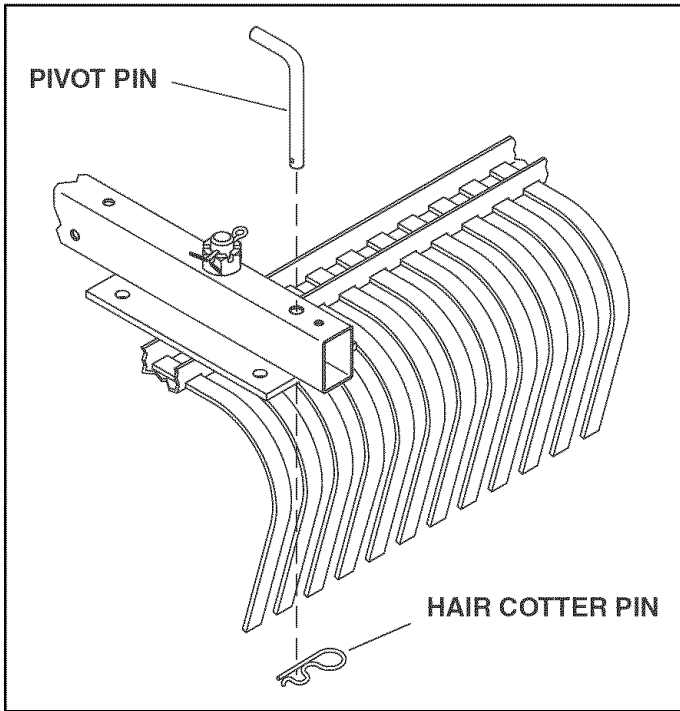

FIGURE 4
- Lock the rake assembly in the straight ahead position by installing the pivot pin through the hole in the rear of the pivot pin by installing the pivot pin through the hole in the rear of the hitch assembly. Secure the pivot pin using the hair cotter pin. See figure 4.